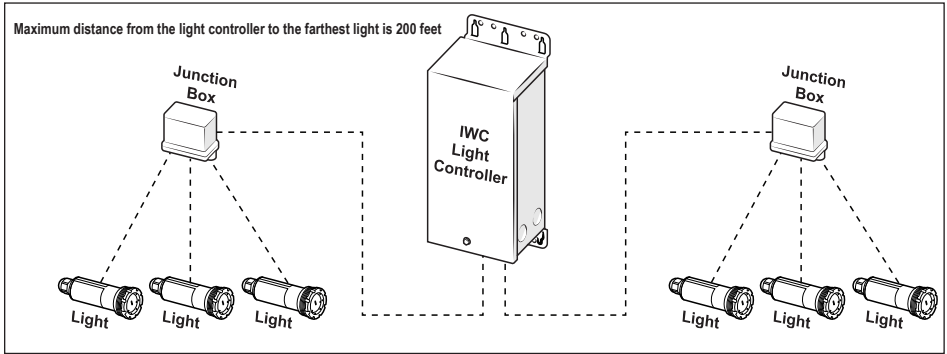

Figure 2. Star Distribution Network
- Aim for star network power distribution where possible. (See figure 2)